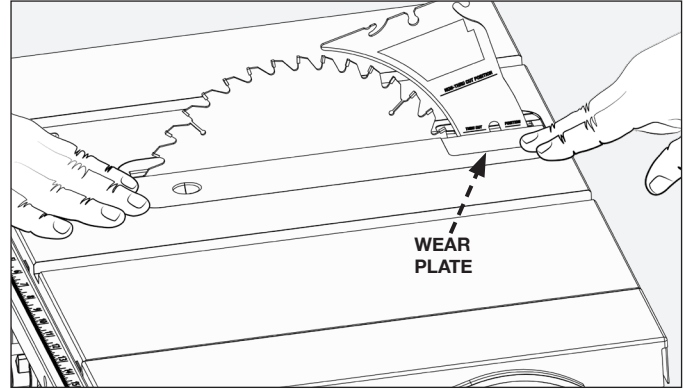

FIGURE 12
Insert the rear tab of the throat plate (G) (the end with the wear plates) under the surface of the table, and snap the front end in place (Fig. 12). Check that the throat plate is properly adjusted to the table. Front of throat plate should be level or slightly below the surface of the table and rear of the throat plate should be level or slightly above the surface of the table (Fig. 12).